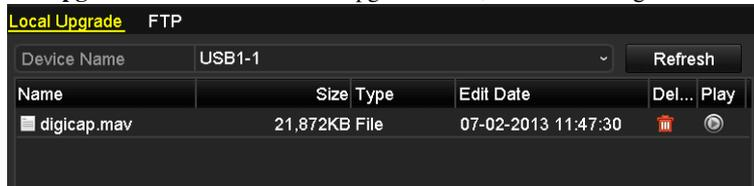

Figure 12. 222 Local Upgrade Interface
3. Click the **Local Upgrade** tab to enter the local upgrade menu, as shown in Figure 12. 222 .